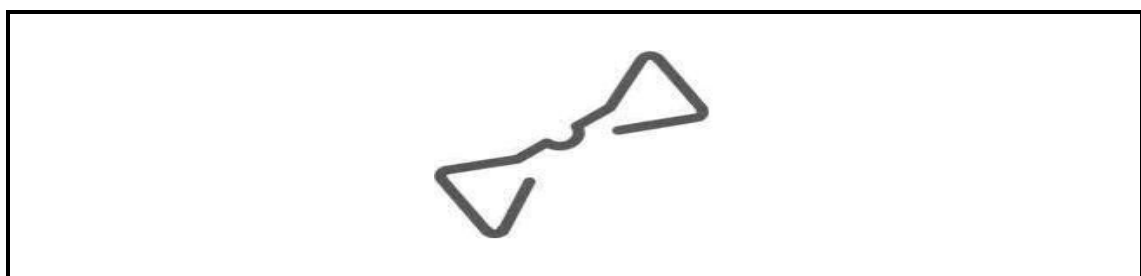

FIGURE 5.4
- 5.4 Identify the type of wall tie in FIGURE 5.4. (1)